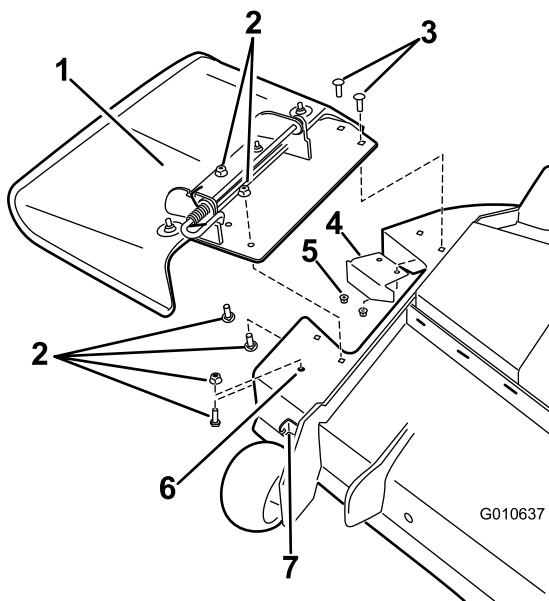

Figure 7
1. Remove fasteners securing the deflector assembly and existing cut off baffle to the deck (Figure 7). Retain all fasteners. Remove the fasteners plugging the forward hole.